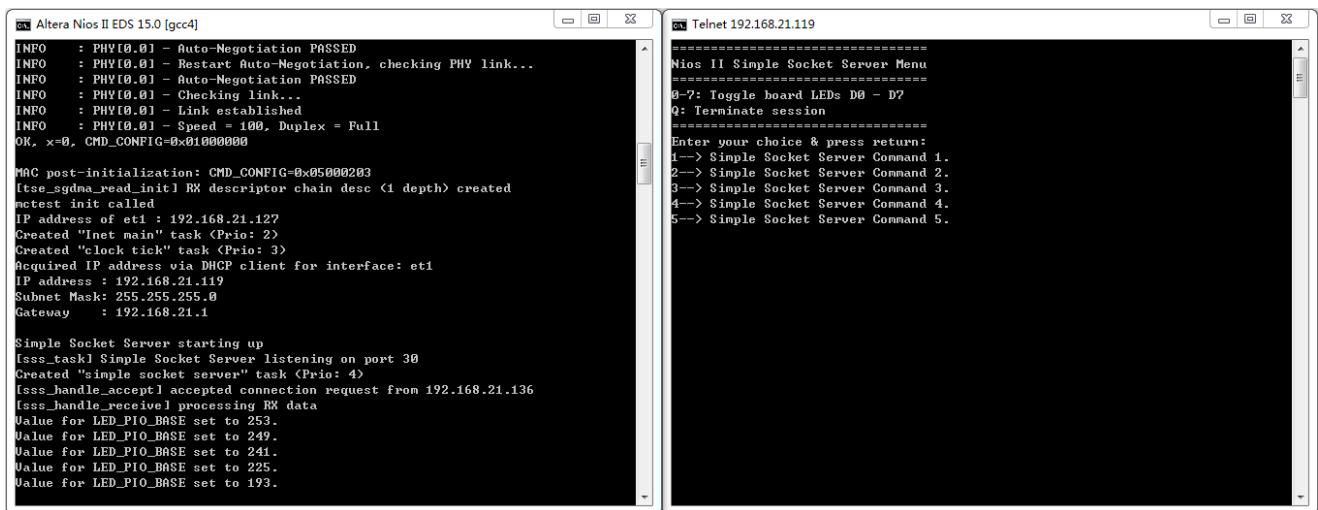

Figure 7-18 Display Progress and Result Information for the Socket Server Demonstration
- From the Simple Socket Server Menu, enter the commands in the telnet session. Entering a number from zero through seven, followed by a return, causes the corresponding LEDs (D0-D7) to toggle on or off on the DECA board as shown below in Figure 7-18.